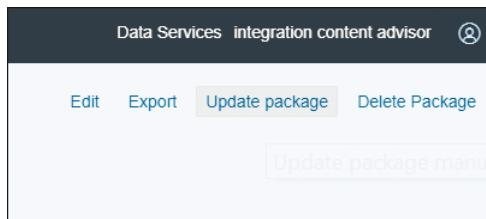

Figure 3.4 Updating Selected Items of the Content Package
As a consumer, you can update your entire content package using the **Update package** button in the top-right corner of the screen (Figure 3.4). It's also possible to update single objects of the package instead of the entire package, by following these steps:
2. Within the **Artifacts** tab of the package, select the artifacts that you want to update by checking the respective checkboxes. This tab lists all artifacts contained in the package and indicates which of them can be updated with the **Update Available** link, as shown in Figure 3.4.